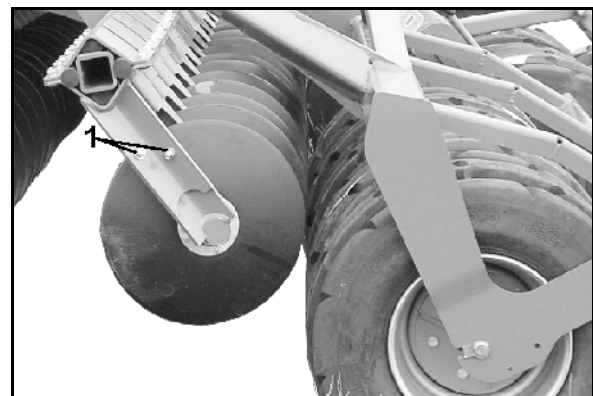

Fig. 25
2. Release screw unions (Fig. 25/1).